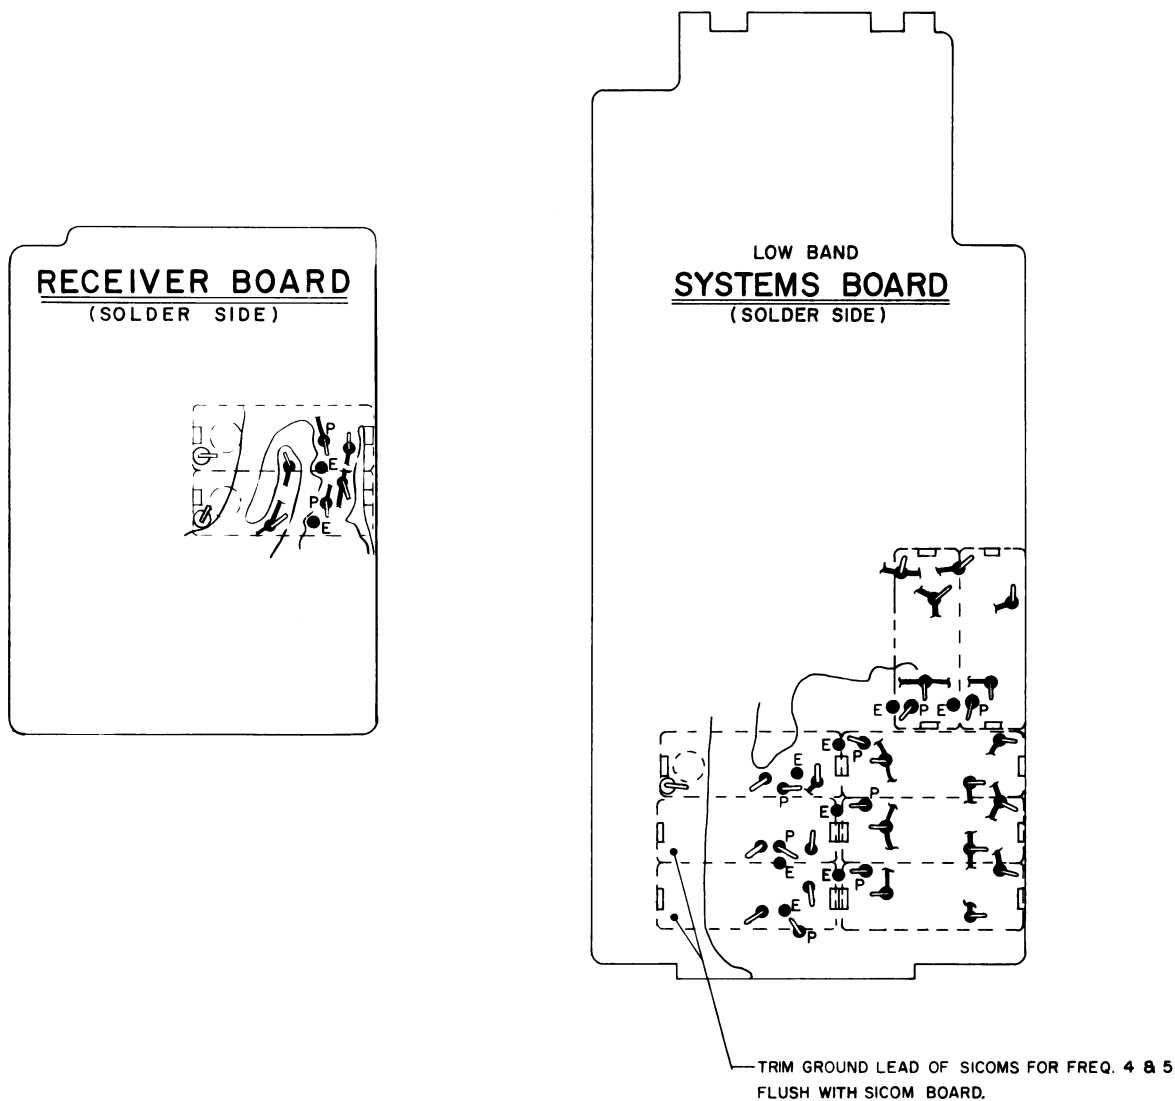

Figure 2 - Oscillator Module and Diode Installation
2. Place the oscillator module(s) in the proper holes (see Figure 3). Then bend over tabs on the can and solder to the adjacent pads (see Figure 2).
3. Bend the leads of the oscillator module as shown in Figure 2 (or appropriate Outline Diagram) and solder to the adjacent pads.
2. Install the oscillator(s) whose frequencies are to be repeated as directed above except solder the Number 2 pin to the "E" pad instead of the "P" pad (see Figure 2).